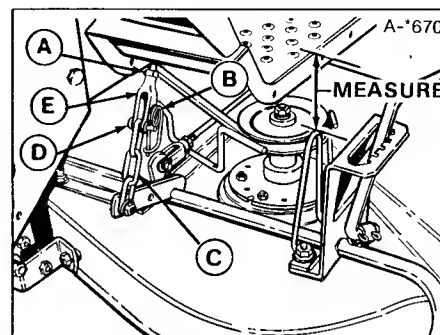

Figure 38. Lift Assembly - Small Lift Lever
2. Measure the distance between top of upstop bracket and bottom of footrest (figure 38). The measurement should be 2-13/16.
3. To adjust, disconnect elevis (E) from chain. Loosen nut (A) and turn elevis to raise or lower mower. Re-connect chain to check measurement. When correct, tighten nut against elevis.